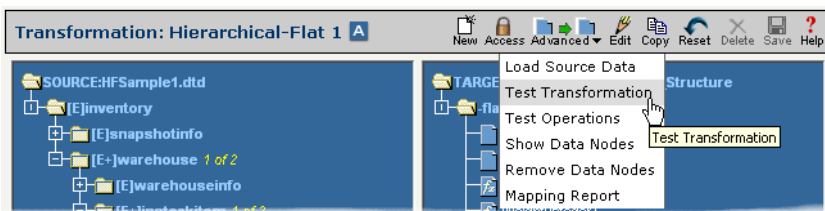

Figure 18-5. Select "Test Transformation" from the **Advanced** menu icon to see how your Target's values are generated from the original Source data.
- 1 Select "Test Transformation" from the **Advanced** toolbar item (see Figure 18-5 below).